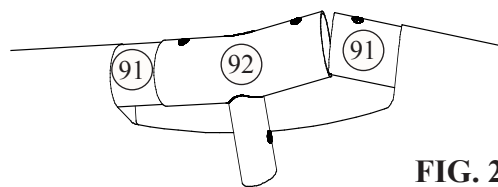
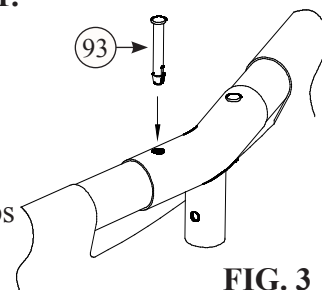

FIG. 2
FIG. 3
3. When you get to the last connection, install the last Tee Fitting on the end of one of the beams. Lift up on both of the last two Beams in order to get them to insert into the Tee Fitting. Angle them towards each other and guide the Beam into the Fitting as you lower them both down together. See **Fig. 2.** This step may require two people. Now, begin inserting the Pins (93) down through the top of the Tee Fittings until the Pin snaps into place on the lower side of the Fitting as shown in **Fig. 3.**